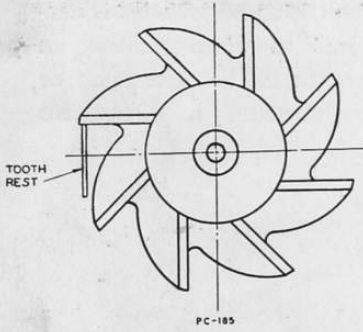

Fig. 19
5. Clamp the tooth rest in place on the work head (see Fig. 19), resting the blade against the under side of the tooth to be ground.
5. Clamp the tooth rest in place on the work head, resting the blade against the under side of the tooth to be ground. (See Fig. 19.)